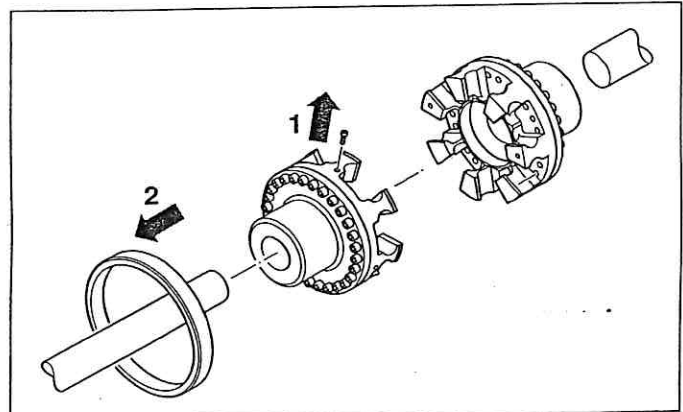

Fig. 2
- Undo the three cheese-head screws around the claw ring (Fig. 2, Item 1).
- Slide the holding ring over the claw ring and flange hub and place it on the corresponding shaft (Fig. 2, Item 2).